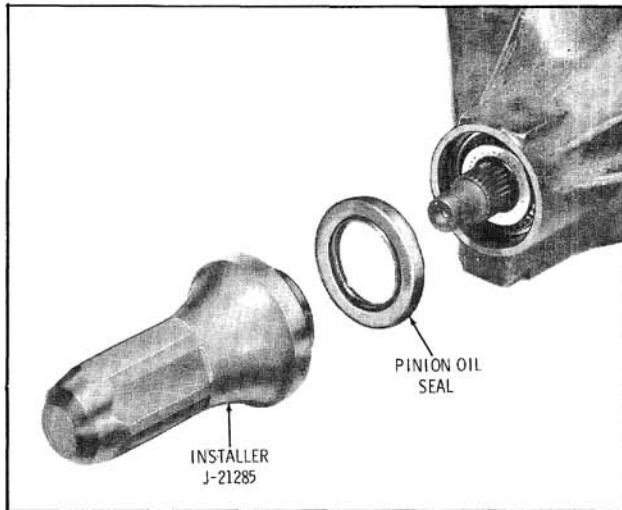

Fig. 10-34 Installing Pinion Oil Seal
3. Position pinion oil seal in carrier. Install seal as shown in Figs. 10-34 or 10-35.